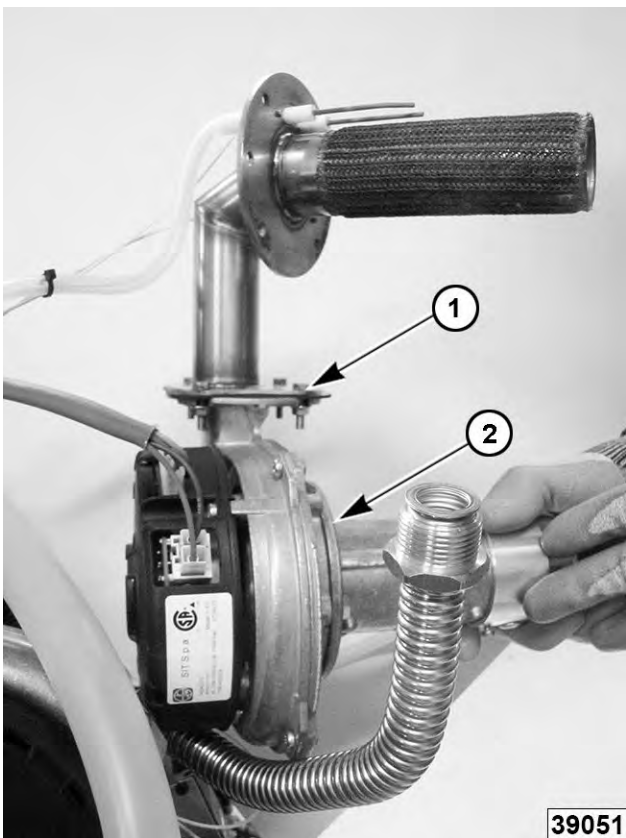

Fig. 109
5. Remove blower mounting screws (1, Fig. 109) from burner and venturi (2, Fig. 109).